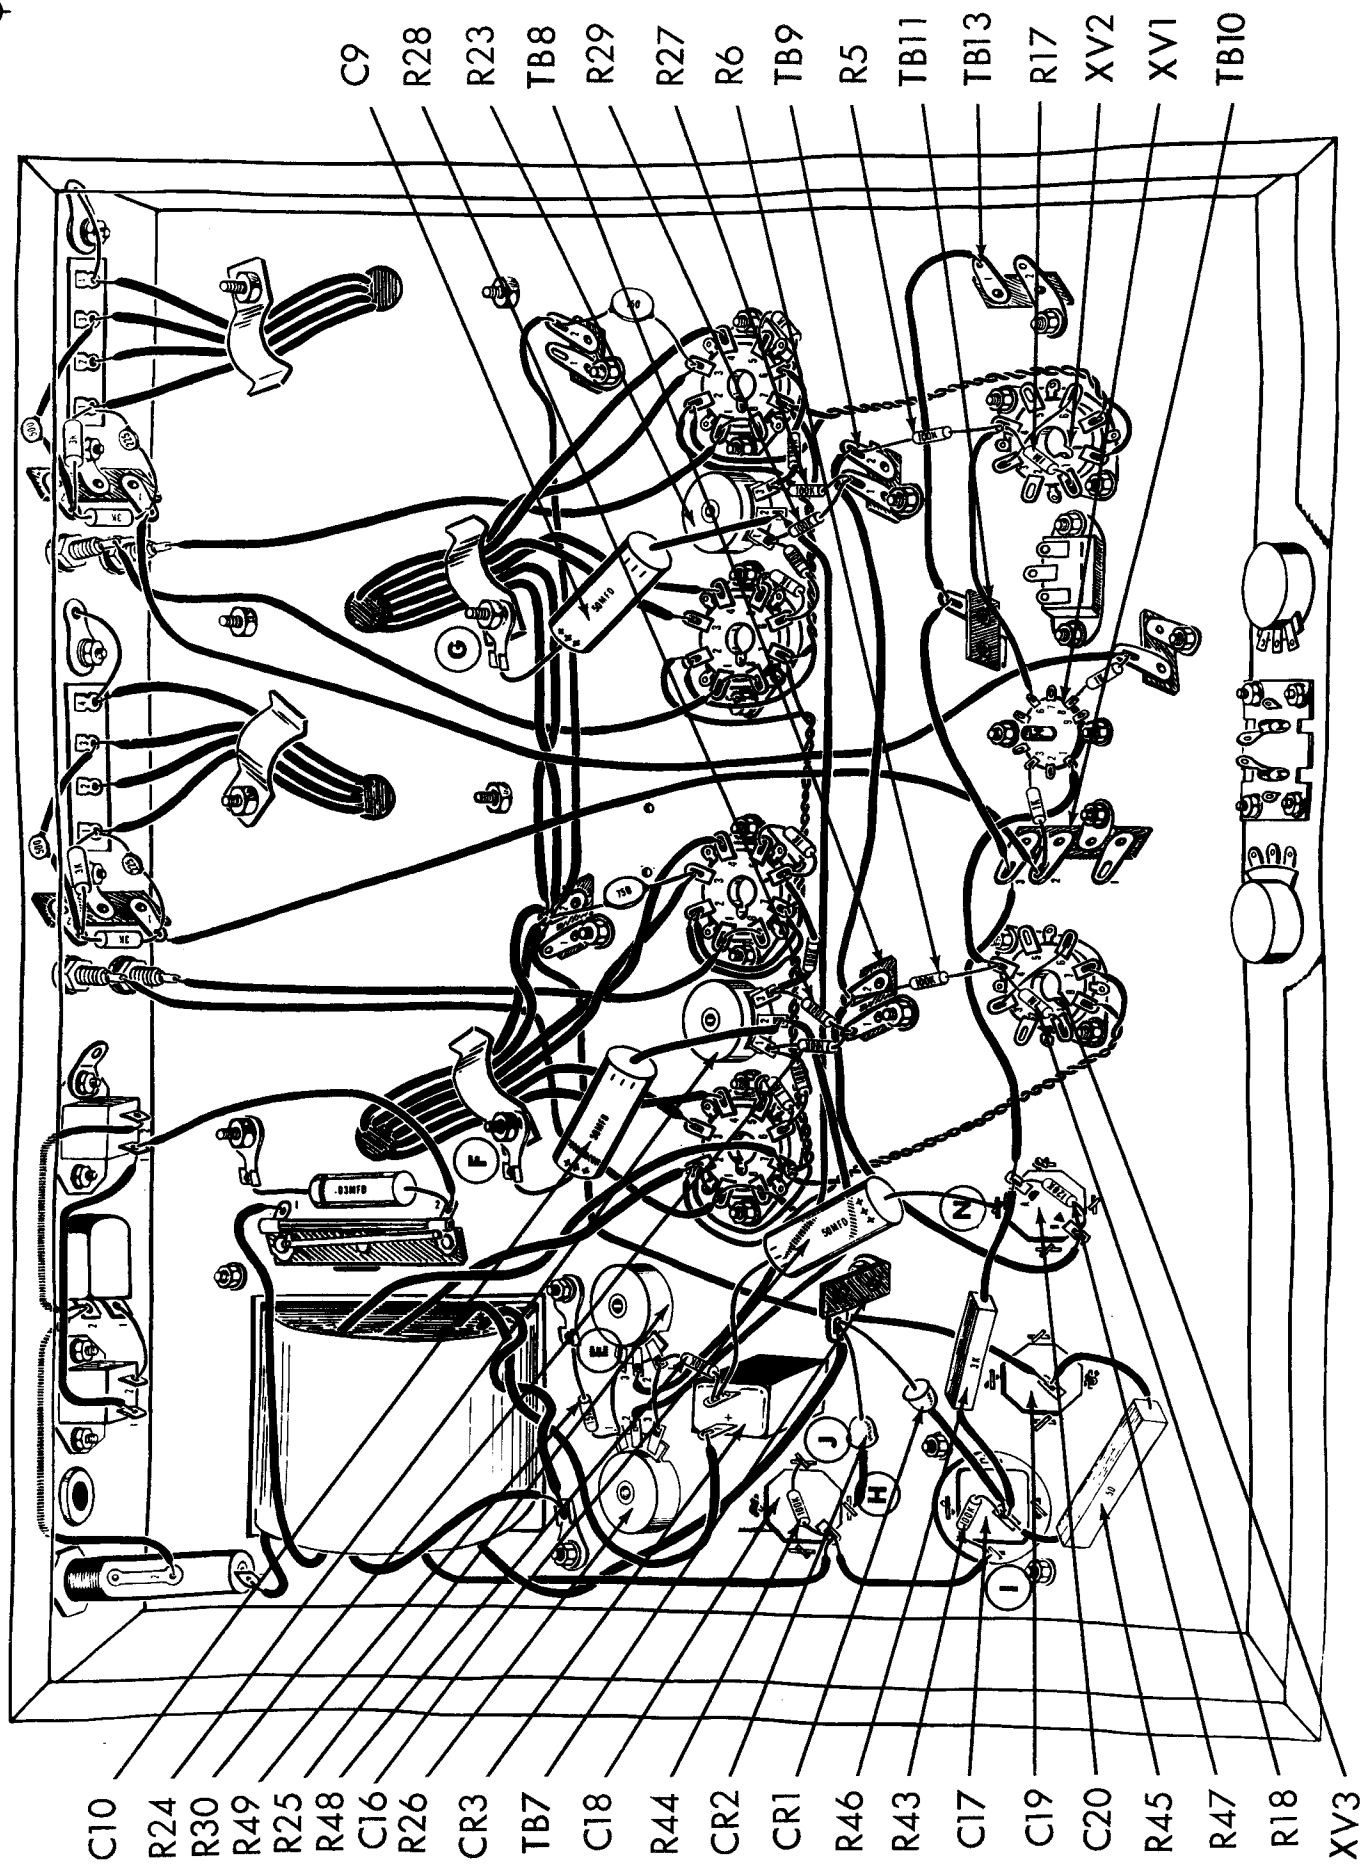

Fig. 5
- ( ) 1. Fig. 5. Cut all leads on three 50mfd, 150 volts electrolytic capacitors, C9, C10 and C16 to 1 1/2". Cover each lead with a 1 1/4" piece of spaghetti. Connect the positive (+) lead on C16 to ground lug "N" (S1) at C20 and the negative (-) lead to CR3-2 (C). Connect the positive (+) lead on C9 to ground lug "G" (S1) and the negative lead to R23-2 (S2). Connect the positive (+) lead on C10 to ground lug "F" (S1) and the negative (-) lead to R24-2 (S2).
- ( ) 2. Fig. 5. Connect a 7" piece of orange wire from TB8-2 (C) to TB9-2 (C).
- ( ) 3. Fig. 5. Cut all leads on four 100K 5% (brown, black, yellow, gold) resistors, R27, R28, R29 and R30, to 3/4". Connect R27 from R23-3 (S2) to TB9-1 (C). Connect R29 from R23-1 (S2) to TB9-1 (C). Connect R28 from R24-3 (S2) to TB8-1 (C). Connect R30 from R24-1 (S2) to TB8-1 (C).
- ( ) 4. Fig. 5. Connect a 3" piece of red wire from C17 (C) to lug "I" (C) at C18.
- ( ) 5. Fig. 5. Cut all leads on two 100K 10% (brown, black, yellow, silver) resistors, R43 and R44, to 1/2". Connect R43 from C17 (C) to lug "I" (S2) at C17. Do not short lug to chassis ground. Connect R44 from C18 (S3) to lug "J" (S1) at C18.
- ( ) 6. Fig. 5. Cut both leads on a 50Ω 10 watt wire wound resistor R45, to 1 1/4". Cover each lead with a 1" piece of spaghetti. Connect from C17 (C) to C19 (S2).
- ( ) 7. Fig. 5. Cut both leads on a 3000Ω, 5 watt, wire wound resistor, R46, to 1 1/2". Cover each lead with a 1 1/4" piece of spaghetti. Connect from C17 (C) to C20-A (C).
- ( ) 8. Fig. 5. Connect a 5" piece of red wire from C20-A (C) to TB10-3 (C).
- ( ) 9. Fig. 5. Connect a 4" piece of red wire from TB10-3 (C) to TB11 (C).
- ( ) 10. Fig. 5. Connect a 4" piece of red wire from TB11 (C) to TB13-1 (C).
- ( ) 11. Fig. 5. You have been supplied in your kit with two silicon rectifiers, CR1 and CR2. Note that excessive heat on the leads of these rectifiers can ruin them. When you solder be careful not to apply any excessive heat to the junctions.
- ( ) 12. Fig. 5. Connect a 1 1/4" piece of bare wire from R26-3 (S1) to R25-1 (C).
- ( ) 13. Fig. 5. Connect a 1 1/4" piece of bare wire from R26-1 (C) to R25-3 (S1).
- ( ) 14. Fig. 5. Cut both leads on a 10K (brown, black, orange, silver) resistor R48, to 3/4". Connect from CR3-2 (S2) to R25-1 (S2).
- ( ) 15. Fig. 5. Cut both leads on a 15K (brown, green, orange, silver) resistor R49, to 3/4". Connect from R26-1 (S2) to ground lug "E" (S1).
- ( ) 16. Fig. 5. Cut both leads on a 120K (brown, red, yellow, silver) resistor R47, to 1/2". Connect from C20-B (S2) to C20-A (C).
- ( ) 17. Fig. 5. Cut all leads on two 100K 5% (brown, black, yellow, gold) resistors, R5 and R6, to 3/4". Connect R5 from XV2-4 (C) to TB9-2 (S2). Connect R6 from XV3-4 (C) to TB8-2 (S3).
- ( ) 18. Fig. 5. Connect a 1 1/2" piece of bare wire from XV2-3 (C) to XV2-6 (S1).
- ( ) 19. Fig. 5. Connect a 4" piece of green wire from XV1-6 (S1) to XV2-4 (C).
- ( ) 20. Fig. 5. Connect a 1 1/2" piece of bare wire from XV3-3 (C) to XV3-6 (S1).
- ( ) 21. Fig. 5. Cut all leads on two 1 meg (brown, black, green, silver) resistors, R17 and R18, to 1/2". Connect R17 from XV2-1 (C) to XV2-4 (S3). Connect R18 from XV3-1 (C) to XV3-4 (S3).